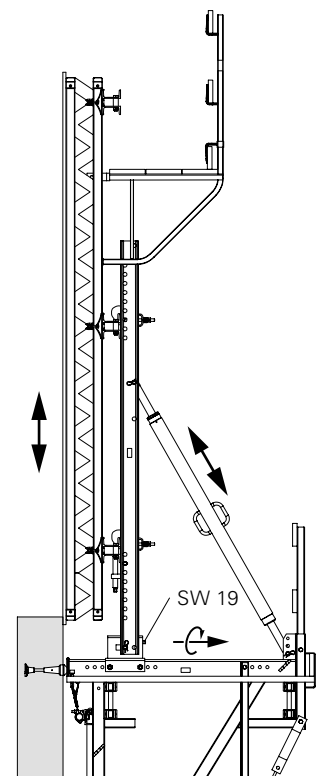

Fig. B2.05d
7. Turn sliding block (16.2) of the Adjusting Unit with formwork to the wall, SW 19. (Fig. B2.05d)